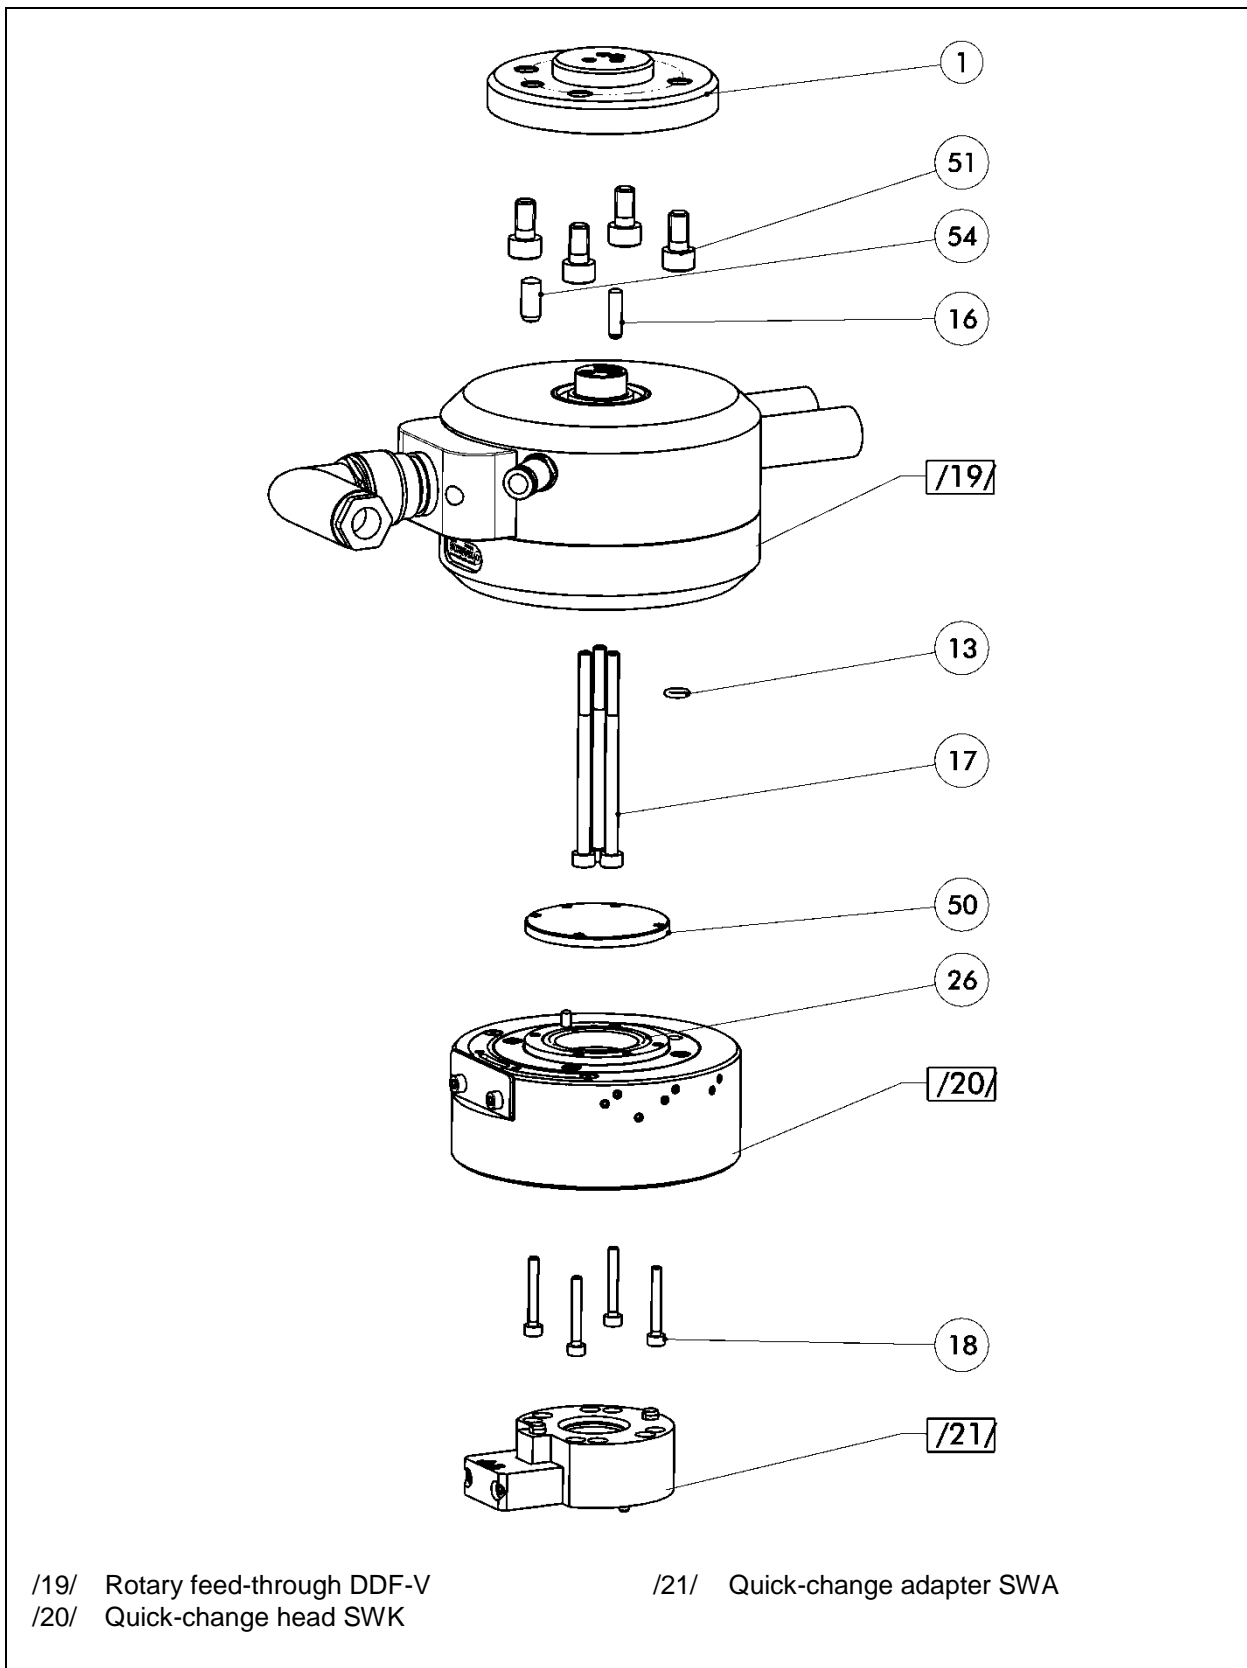

Fig. 10 Assembly drawing DDF-V with SWS-I-011
O-rings missing on the quick-change system	→ Insert O-rings (13) and (26). (see Fig. 10, page 29)
Cover missing on the quick-change system	→ Insert cover item 50 (see Fig. 10, page 29)
(For item, see Fig. 10, page 29)